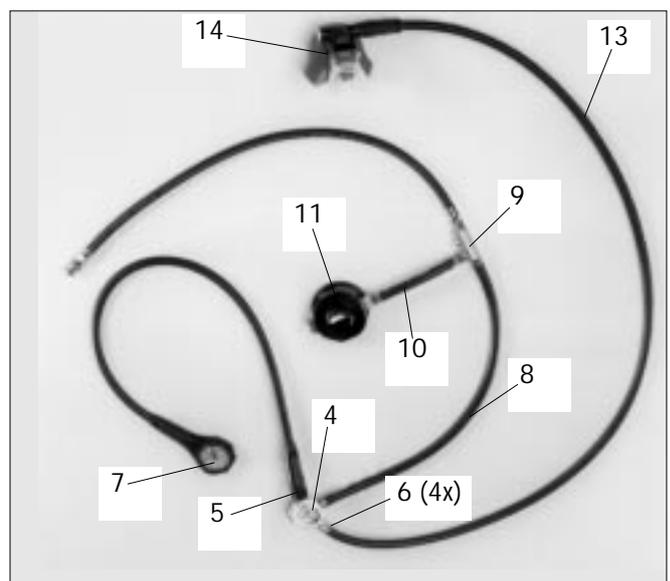

Fig. 3.3 Pneumatics
The nitrox supply for the DrägerRay is a steel or aluminium cylinder (2) of 3.000 psi/ 200 bar attached in the area of the hips using a cylinder strap (3). The tank pressure is reduced to an intermediate pressure of approx. 10.5 bar by the first stage reduction valve in the DrägerRay pressure reducer (4), above the respective ambient pressure. From the pressure reducer (4) a high pressure hose leads to the pressure gauge (7) which indicates gas supply left with the cylinder valve being open. According to the marking of the cylinder. There are two separate second stage pressure hoses (8, 13) from the regulator's first stage, one leading directly to the bail out lung demand valve (14), while the second hose (8) leads to the manifold (9) which has two other medium pressure hoses. One hose (10) leading to the bypass valve (11) regulates the fresh gas flow to the bypass housing. The other one (12) leads to the power inflator (44) of the buoyancy chamber (41) (Bild 3.3). The bypass valve (11) is sensitive to air pressure within the bag, and provides additional gas when the gas flow is restricted.